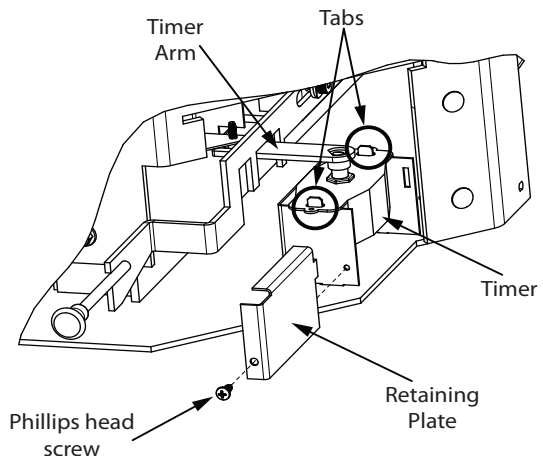

Figure 27.6
2. Using a Phillips screwdriver remove retaining plate (**Figure 27.6**).
3. Lift timer assembly (timer and timer arm) out over tabs and screw (**Figure 27.6**).